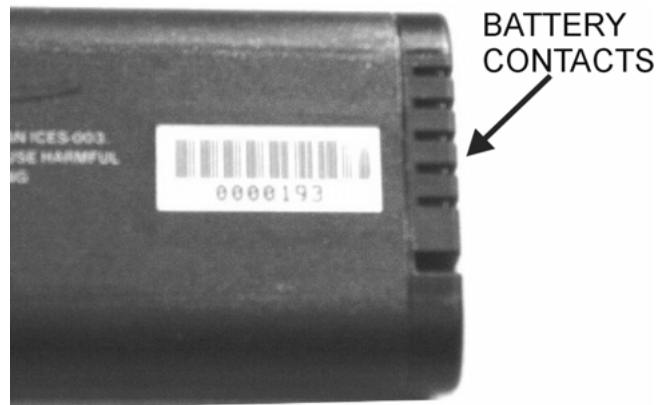

Figure 3-4. Battery Contacts
5. Replacement is the opposite of removal. Note the orientation of the battery contacts, and be sure to insert the new battery with the contacts facing the bottom of the instrument (Figure 3-4).